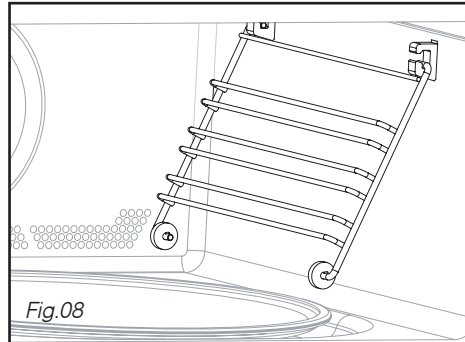

Fig.08
• **The side grills (Fig.08):** 2 shelves with hooks allow you to use the accessories on 3 levels.